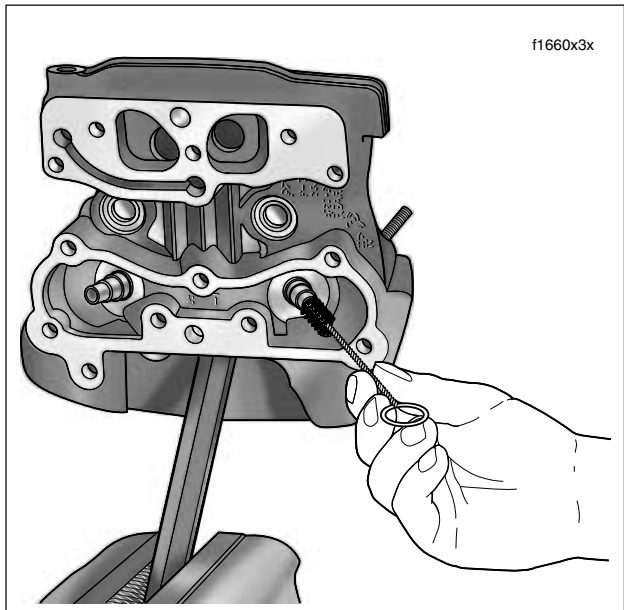

Figure 3-77. Scrub Valve Guide Bore
9. Direct compressed air into the valve guide bore to remove any debris and then clean with the VALVE GUIDE CLEANING BRUSH (HD-34751). See Figure 3-77.